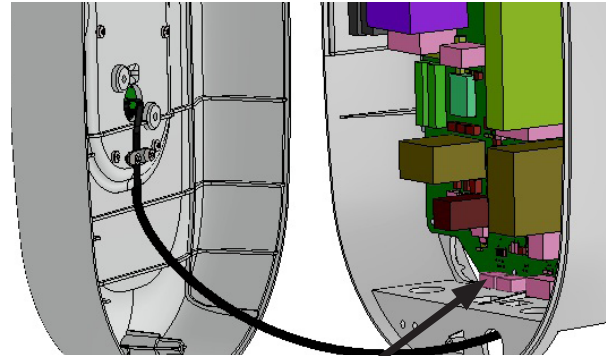

Figure 11: Disconnect console cable from J4 connector.
- Lift the front cover and dis-connect the console cable from the J4 connector located at the bottom side of the base unit as shown in Figure 11. Keep the base unit cover along with console assembly aside.